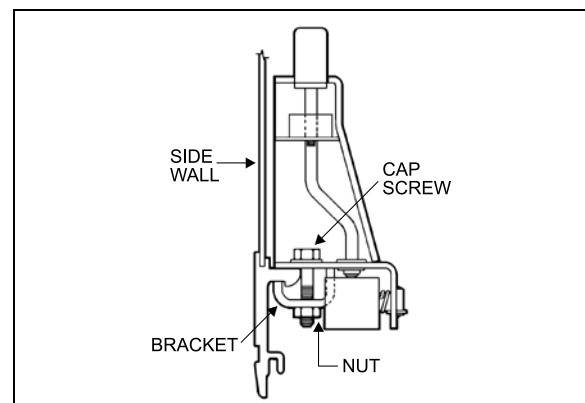
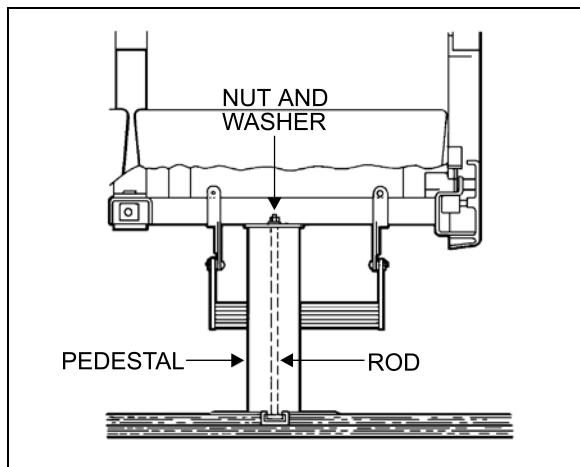

FIGURE 27: SIDE WALL MOUNTING
FIGURE 28: SEAT PEDESTAL ASSEMBLY
4. Remove 2 cap screws, nuts, and washers holding seat frame to side wall and retain the 2 holding brackets. See Figure 27 and Figure 28.